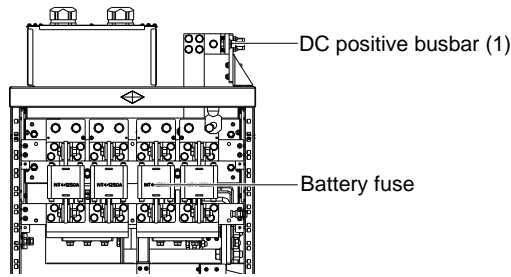
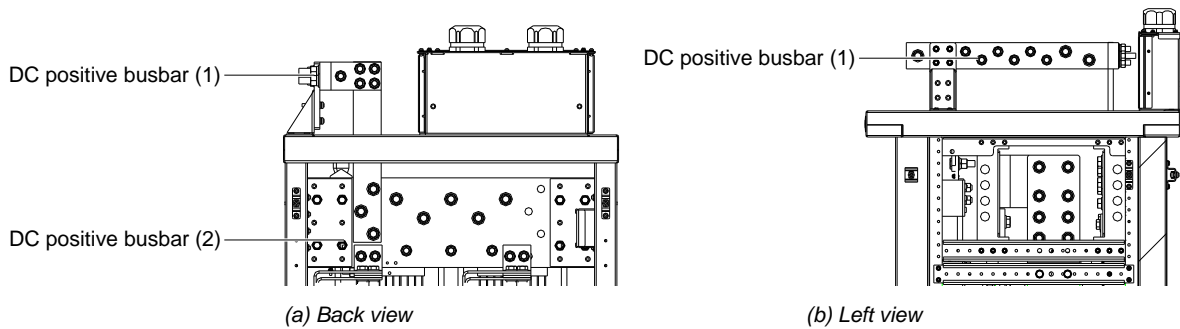

Figure 3-18 Battery cable connection in rectifier cabinet
Figure 3-19 DC positive busbar of the rectifier cabinet
2. Connect one end of the negative cable to the output terminal of the battery fuse or MCB and one end of the positive cable to the DC positive busbar of the rectifier cabinet. Add cable lugs to the other end of the positive and negative cables, bind the cable lugs with insulating tape, and put them beside the battery. Connect the cables to the battery when the DC distribution is to be initially tested, as shown in Figure 3-18.
The DC positive busbars of the NetSure 701 AO2-T1、NetSure 701 AO3-T1 rectifier cabinet are shown in Figure 3-18 and Figure 3-19. The maximum current of DC positive busbar (1) is 1000A, and the maximum current of DC positive busbar (2) is 2000A. It is recommended to connect positive battery cable to DC positive busbar (2).